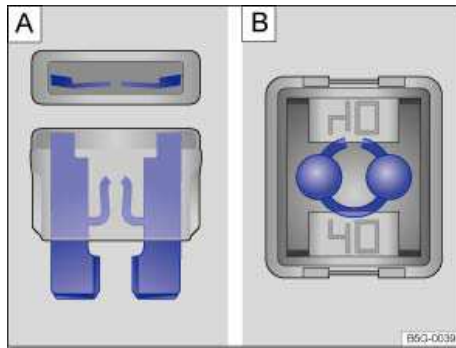

Fig. 166 Blown fuse: A: Blade fuse. B: Cartridge fuse.
- A blown *blade fuse* (ATO, MINI) has metal strips that have burned through, which you can see through the transparent housing from above and from the side ⇒ fig. 166 A.